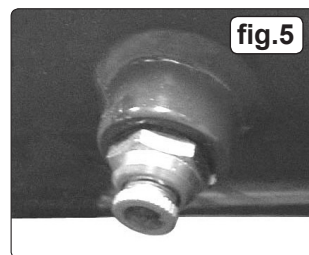

fig.5
- 5.3. Ensure that the tank drain valve is closed (fig.5).
- 5.14. The tank must now be drained. This will release the air left in the tank and drain away condensation that may have formed within the tank. Choose a suitable location for this operation and/or make provision to collect the condensation. **Wear ear and eye protection.** Open the tank drain valve (See fig.5) slowly allowing air and moisture to bleed from the tank. After bleeding close the drain valve to prevent debris building up in the valve.
- a) Drain condensation by opening the valve located under the tank. Place a container under the valve and open the valve by turning anti-clockwise. See fig.5.